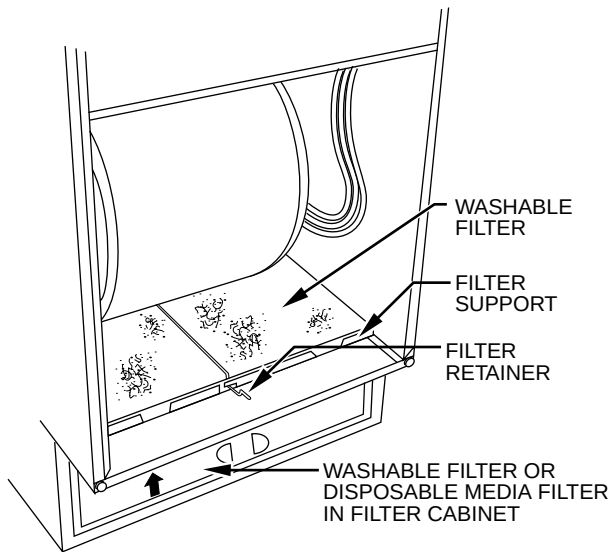

Fig. 3—Bottom Filter Arrangement
3. Release filter retainer wire. (See Fig. 3 or 4.)
- **NOTE:** Filters shown in Fig. 3 and 4 can be in furnace blower compartment or in filter cabinet, but not in both.